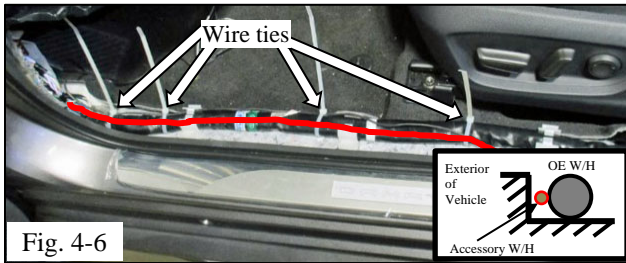

Fig. 4-6
(f) Route the door sill harness to the front of the vehicle along the exterior side of the OE harness & apply four (4) wire ties (Fig. 4-6).